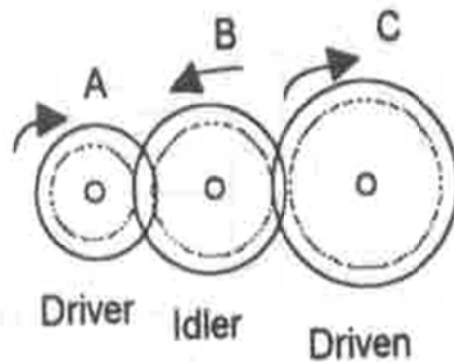

Figure 7: Three meshed gear wheels
- (a) Consider three meshed gear wheels A, B and C in **Figure 7**. If there are 40 teeth on wheel A, 80 teeth on wheel B and 120 teeth on wheel C, find the overall gear ratio of the angular velocities at the input and output shafts.